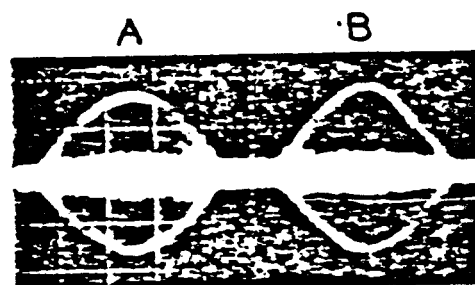

Fig. 4.15.1
5. Step the carriage from track 00 to track 16 and observe read output on oscilloscope as shown in figure 4.15.1.